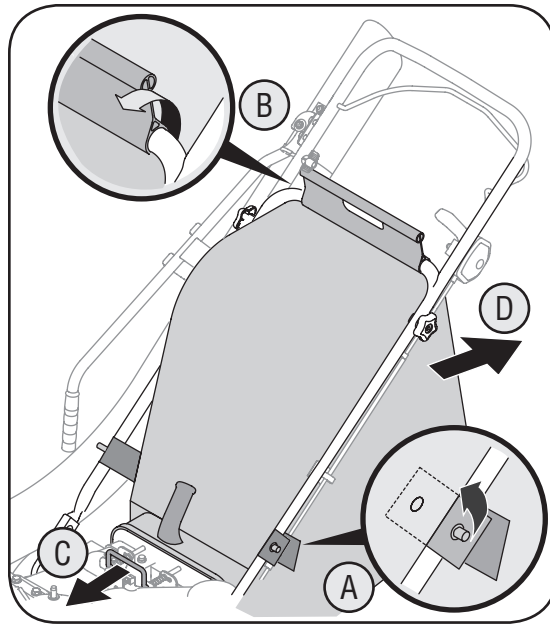

Figure 10
b. Unsnap bag clip from the top of lower handle. See Figure 10.